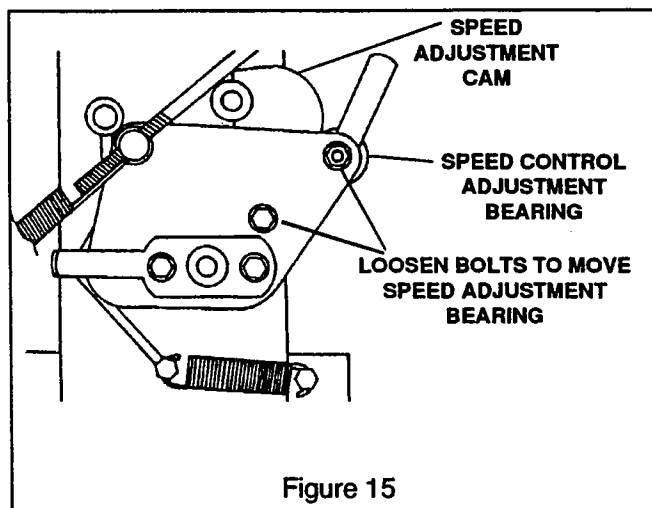

Figure 15
- Loosen the two bolts securing the speed adjustment bearing to the bellcrank. (See figure 15)
- Place the speed adjustment bearing where it just contacts the speed adjustment cam. (See figure 15)
- If the machine pulls to the left, on the left side of the bellcrank, loosen the two securing bolts and move the adjustment bearing 1/16" away from the cam and retighten the bolts. Restart engine and check for tracking straight. (See figure 15)